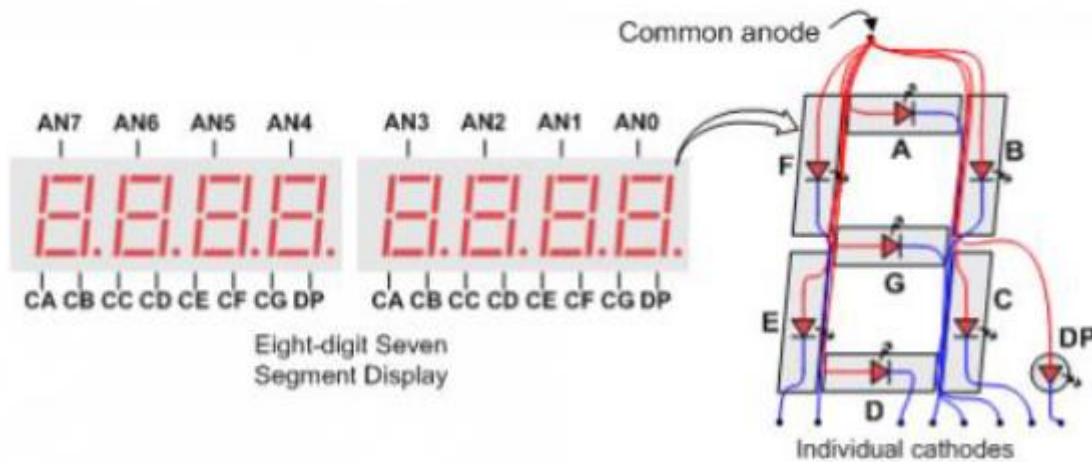

Figure 2: 8-digit seven-segment display in Nexys A7 FPGA board
- You will be given an 'ssd' module to display your messages on SSDs. Figure 2 shows how SSDs operate in Nexys A7 FPGA board. Each SSD (digit) has 8 diodes (A, B, C, D, E, F, G, P). The anodes of all 8 diodes are connected, so they have a common anode. Their cathodes can be controlled separately. To display anything on the SSD, you need to activate the common anode of that SSD (digit) and the cathodes you need to activate. Both anode and cathodes work active-low, meaning you need to assign logic-0 to activate the diodes. For example, if you want to display A on the leftmost SSD, AN7 should be activated and A, B, C, E and F of the leftmost digit should be activated. You don't need to do anything for AN7, the 'ssd' module handles it. To activate the required LEDs of leftmost digit, you need to provide the following inputs to 'ssd' module: